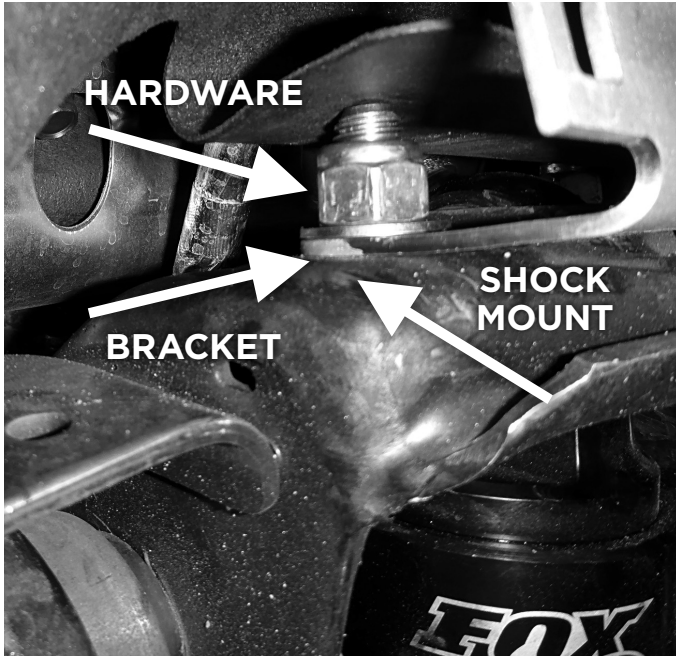

Figure 9: Passenger side shown
16. Using the supplied hardware, attach shock to upper mounting, using a washer on both the bolt and the nut. Ensure that the reservoir bracket is between the top of the shock bucket and the supplied hardware (Figure 9). Torque to 90 ft-lbs.